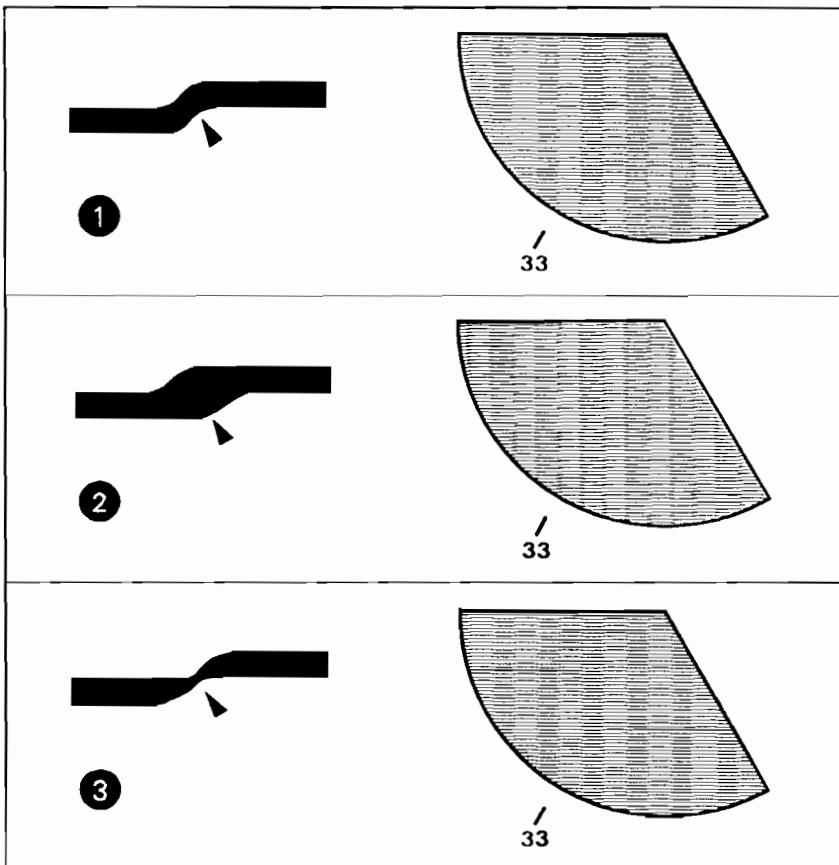

Figure 4-19. Vertical Stripes in the 33% Pie Slice
2. If you see *light vertical stripes* (Figure 4-19, sample 3), adjust Resolution Enhancement to the next darker setting.
3. If you see *dark vertical stripes* (Figure 4-19, sample 2), adjust Resolution Enhancement to the next lighter setting.
5. Repeat this process until the 33% pie slice shows a minimum of light or dark lines (Figure 4-19, sample 1).